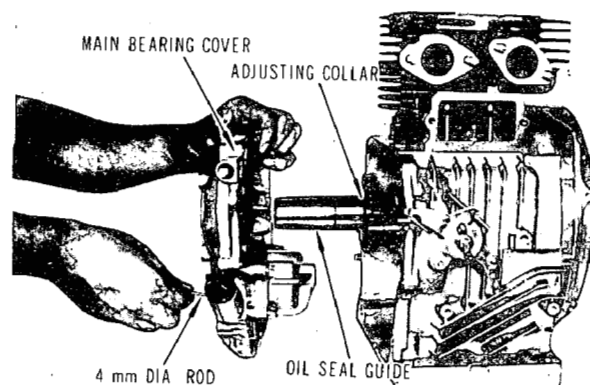

Fig. 6-3-7
- 2) After setting crankshaft to the upper dead point of piston, insert a 4mm rod through 6mm screw hole to fix crankshaft as shown in Fig. 6-3-7. Then, evenly tap around the periphery of bearing cover with a soft hammer until cover breaks free from crankcase.